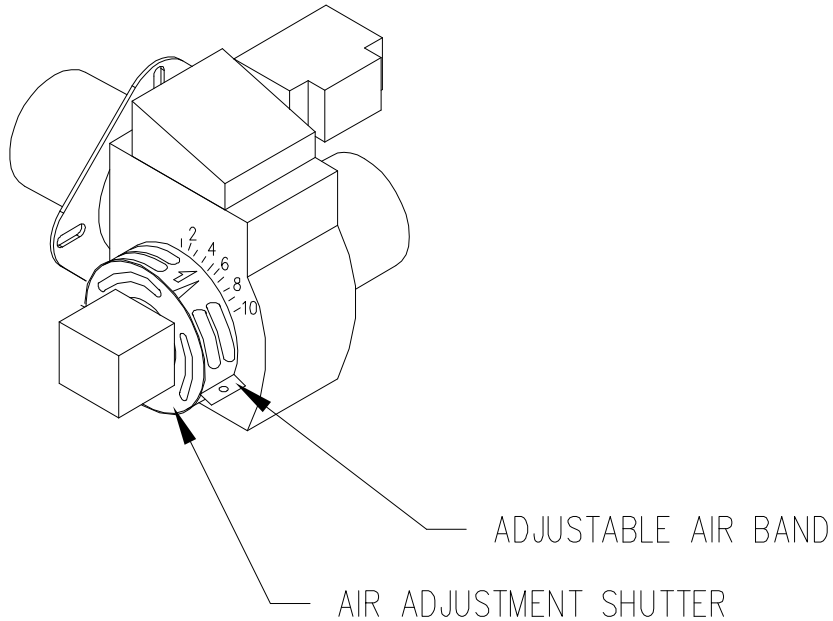

Figure 19: Preliminary Adjustment of Burner Air Band and Air Shutter
- i. When ignition is established, make a preliminary burner air adjustment to attain a clean combustion flame. Generally, the burner bulk air band should be about 3/16 inch open and the opening of the burner air shutter set in the range of “2” to “7”, refer to Figure 19.